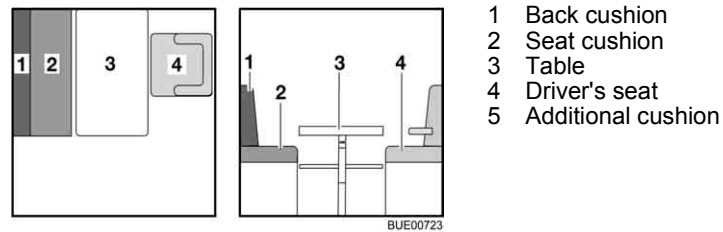

Fig. 116 Prior to conversion
- Turn the driver's seat (Fig. 116,4) and push it all the way forward.
- Convert the table (Fig. 116,3) to a bed foundation (see section 6.10).
- Lay the back cushion (Fig. 116,1) aside.